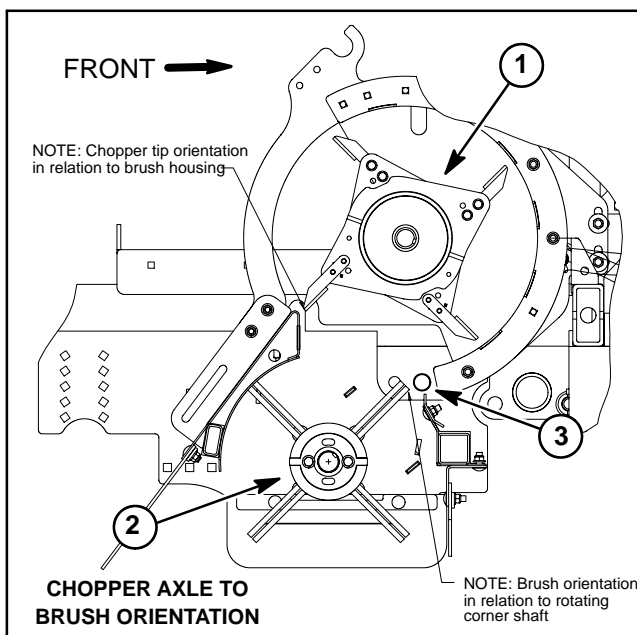

Figure 30
9. Rotate chopper axle so that a row of chopper tips is aligned with the brush housing corner. Rotate brush shaft so that one of the brush tips is aligned with the rotating corner shaft (Fig. 30).
IMPORTANT: Make sure that brush shaft and chopper axle are properly aligned as drive belt is installed on right end of brush shaft (Fig. 30). Improper alignment will decrease machine performance and may lead to increased debris buildup in Processor that can cause accelerated component wear and damage.
12. Adjust drive belt idler pulleys to achieve proper tension on drive belts (see Operator's Manual). After adjustment, make sure that chopper axle and brush shaft are still properly aligned (Fig. 30).